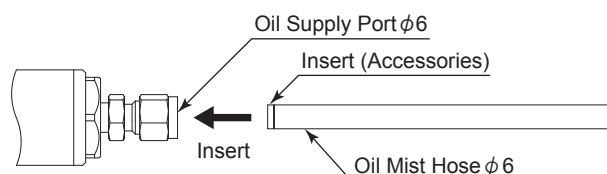

Fig. 16
(2) Insert the Oil Mist Hose of (1) into the Oil Supply Port ($\phi 6$) on the rear of the Brushless Motor Spindle (Fig.16).